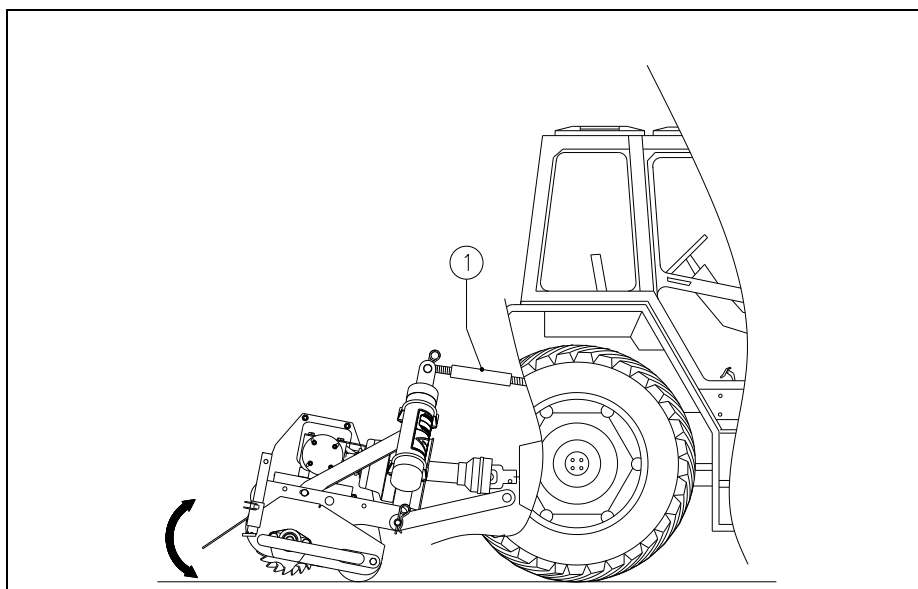

Figure 10
Adjusting the top rod (1) will set the working depth of the machine. Turning the top rod in or out will adjust the working depth (see Figure 10).